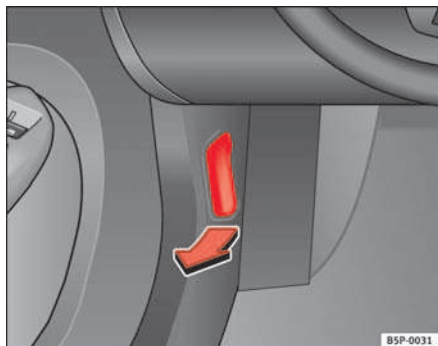

Fig. 151 Detail of the foot well: The release lever for the bonnet is located in the driver side foot well
- To release the bonnet, pull the lever under the dashboard ⇒ **fig. 151** in the direction indicated (arrow). The bonnet will be released by a spring action ⇒ ⚠.